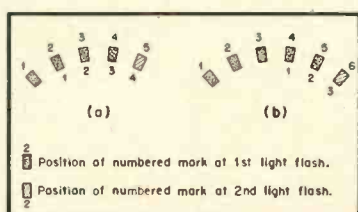

Fig. 1. Stroboscope pattern formation: (A) basic or first-order pattern; (B) higher-order pattern—in this example, the third.
A simple stroboscope for speed check use on rotating equipment consists of an accurately timed, flashing light source and a circular array of equally spaced marks so arranged that successive marks occupy the same physical position during successive light flashes—the pattern of these marks thus appearing stationary, as at (A) in Fig. 1. The speed of rotation of the array which will make the pattern formed appear stationary is related to the angular spacing of the marks and their total number by the simple formulas:
$n$  = total number of marks in the array. It should be noted that the flash repetition rate is twice the supply frequency for a glow lamp operating on alternating current. Also to be remarked is the fact that any integral multiple of  $n$  marks will give a stationary pattern also, and that a similar effect will be observed if the  $n$ -mark array is rotated at a speed which is an integral multiple of the speed  $S$ , as at (B) in Fig. 1. For example, an array of lines spaced 4 deg. apart will appear stationary under illumination